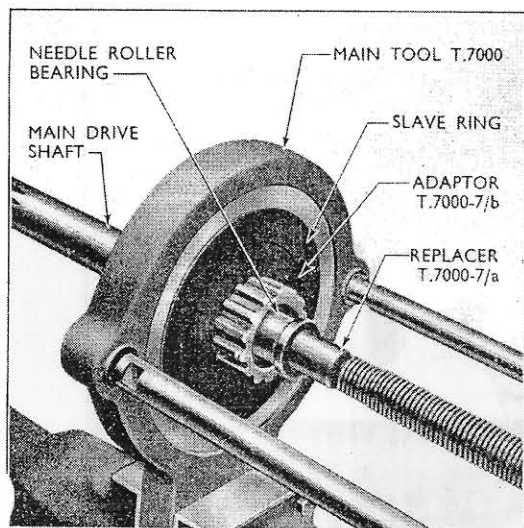

Fig. 23
22. When fitting a new needle roller spigot bearing to the main drive shaft, pass the shaft through the ring adaptor T.7000-7/b until the face of the large spline abuts the adaptor. Install the slave ring in Main Tool T.7000 and place the shaft and adaptors within the slave ring. Locate the bearing on the replacer T.7000-7/a with the end of the bearing having the stamped identification marking against the shoulder of the replacer, and position in the tool so that the bearing is adjacent to the main drive shaft bearing bore. (See Fig. 23.) Press the bearing into the bore until the flange face of the replacer abuts the counterbore face in the shaft.